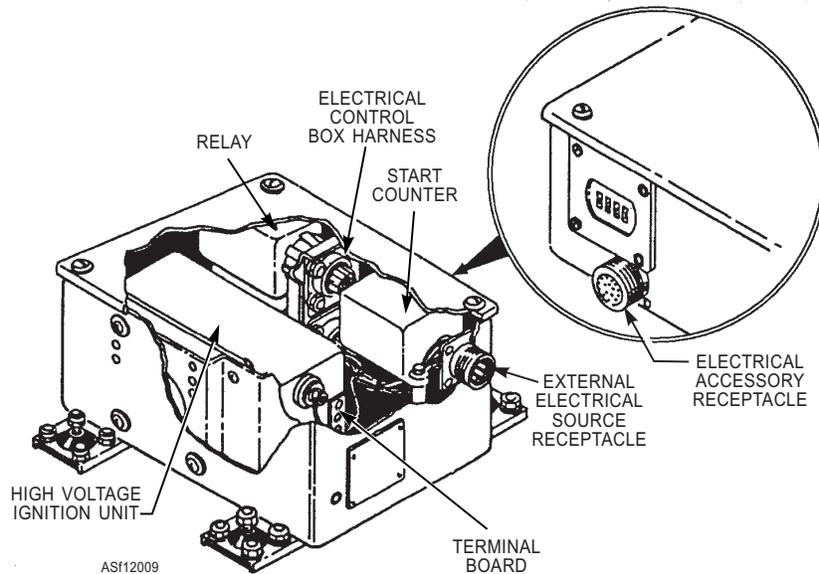

Figure 12-9.—Electrical control box.
**ELECTRICAL CONTROL BOX.**—Electrical control of the engine is maintained through the electrical control box (fig. 12-9). It houses the starter and ignition holding relay, fuel holding relay, ignition unit, and the start counter. The starter and ignition holding relay and the fuel holding relay, when energized, provide power to the circuits they control and also to their own coils for a holding action. The ignition unit provides the high-tension current to the igniter plug.